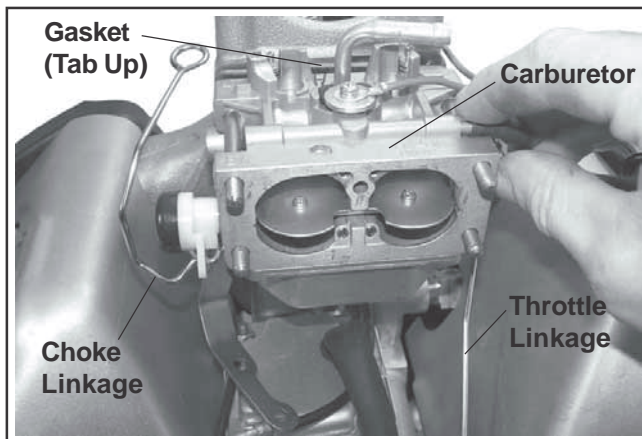

Figure 10-92. Installing Carburetor with Linkages.
3. Connect the throttle and choke linkages to the carburetor if they were previously disconnected. Install the carburetor with the linkages attached as an assembly. See Figure 10-92.